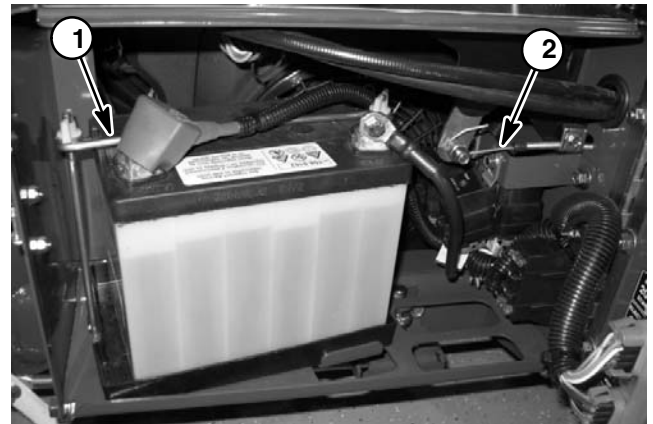
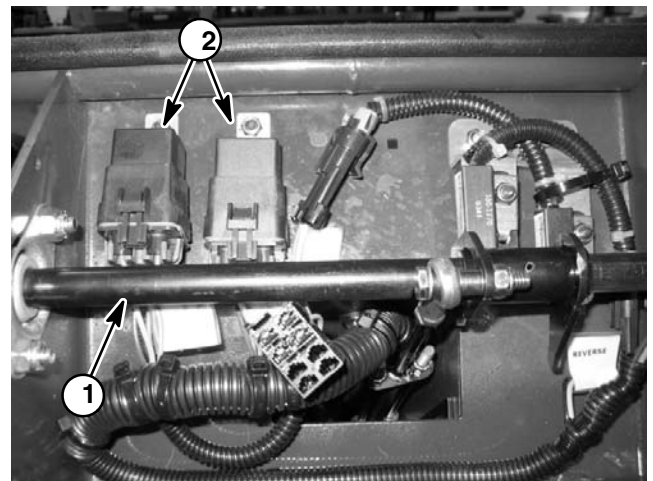

Figure 13
Figure 14
Six (6) relays are used on the ProCore 648. Four (4) of these relays are attached under the control panel next to the battery (Fig. 13): lockout relay, clutch relay, neutral switch (start) relay and lockout latch relay. The remaining two (2) relays are attached under the handle console (Fig. 14): neutral switch (latch) relay and latching relay. The six relays are identical. The relays are identified by a tag on the wire harness relay connector.